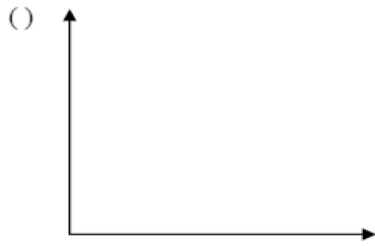
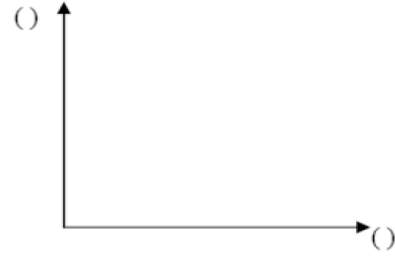

Figure 2
Figure 3
5. Fill Table 1, draw the characteristic curves in Figure 2 and Figure 3 according to your simulation results and add them to your report .
2. Repeat part 1 for the other components named as LED and 5.6V Zener. Draw the outputs on Figure 2 and Figure 3.